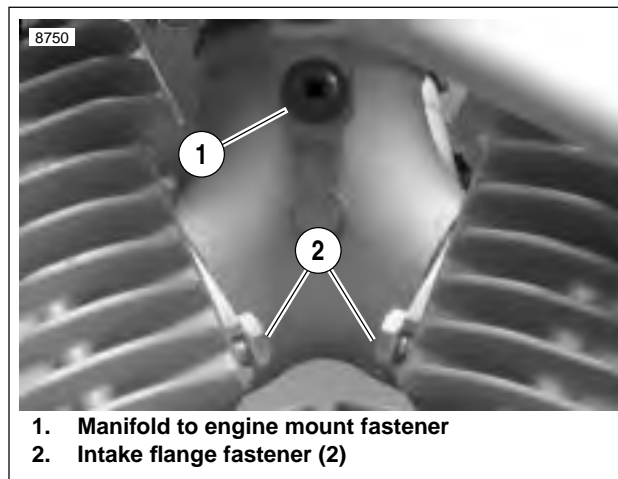
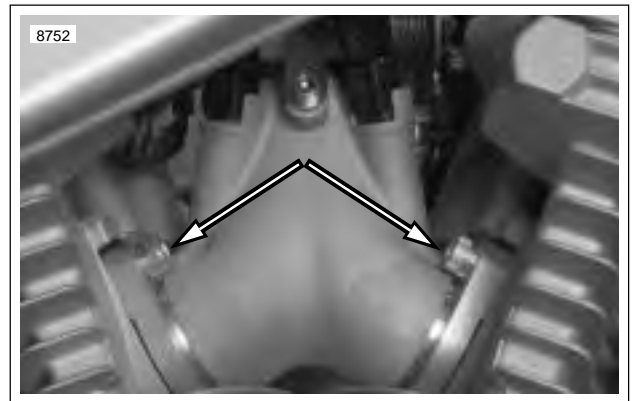

Figure 4-213. Intake Manifold (primary side)
Figure 4-214. Intake Manifold fasteners (gearcase cover side)
- a. See Figure 4-213. On primary cover side, loosen but do not remove the two front and rear intake flange fasteners (2).
- b. Remove fastener (1) holding manifold to engine mount.
- c. See Figure 4-214. On gearcase cover side, remove both intake flange fasteners from cylinder heads.
- a. See Figure 4-213. Slide the assembly toward installed position. Manifold should slide over fasteners (2) on primary cover side of engine.